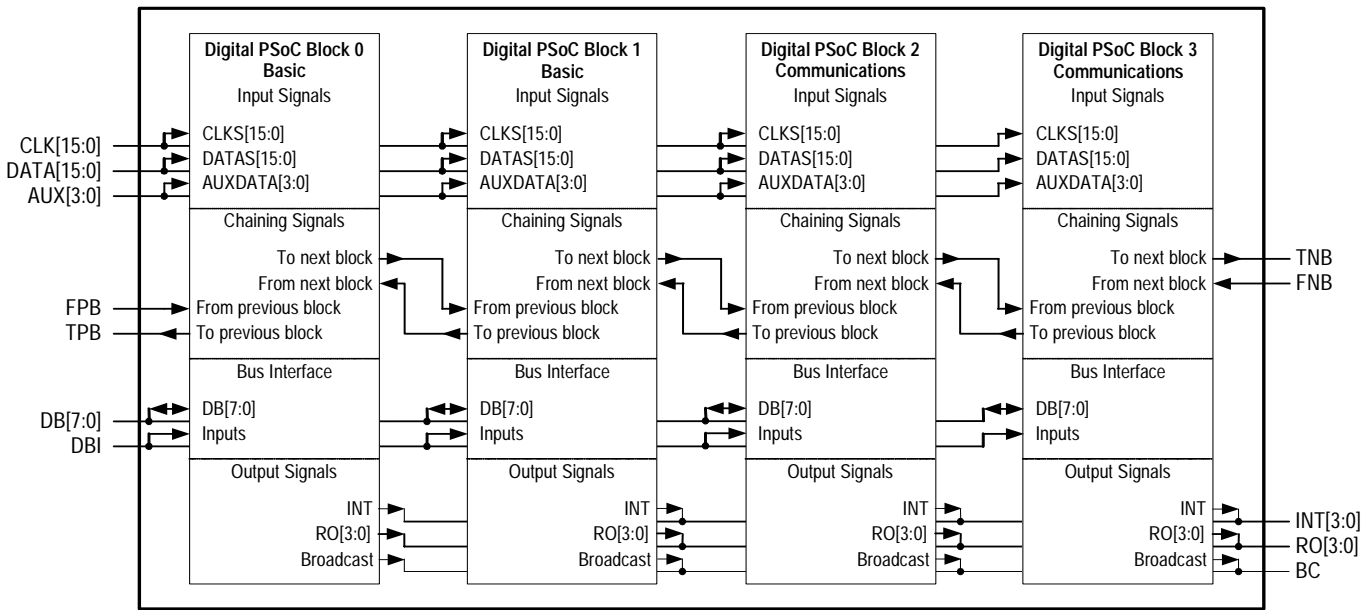
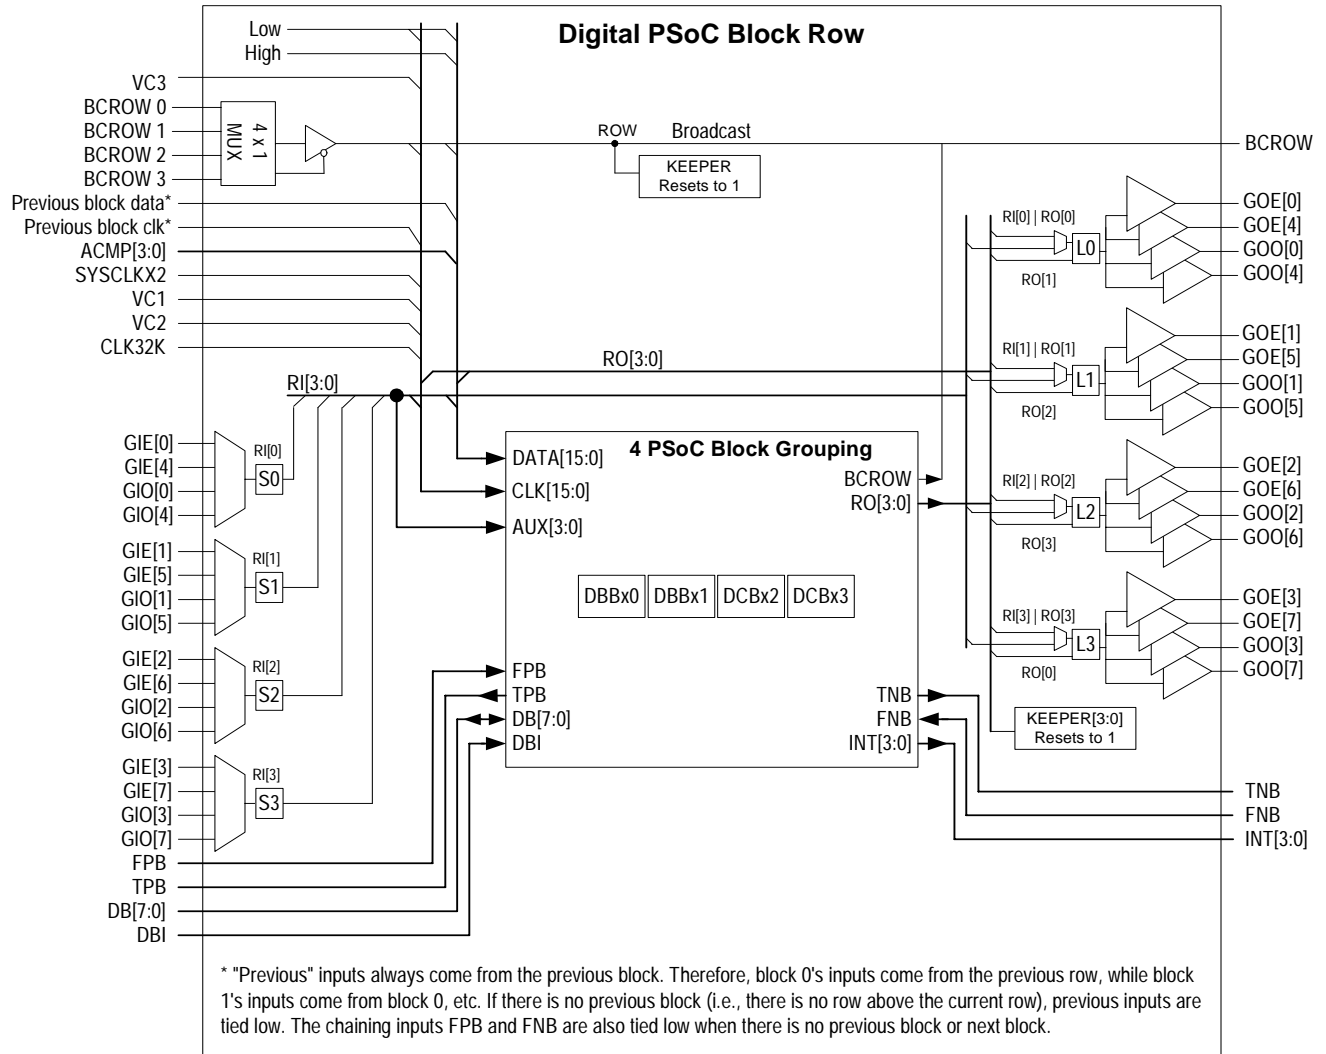

Figure 16-1. Detailed View of Four PSoC Block Groupings
Figure 16-2. Digital PSoC Block Row Structure
In Figure 16-1, within a Digital PSoC Block row, there are four digital PSoC Blocks. The first two blocks are of the type basic (DBB). The second two are of the type communication (DCB). This figure shows the connections between digital blocks within a row. Only the signals that pass through the bold line in Figure 16-1 are shown at the next level of hierarchy (Figure 16-2 on page 203).
In Figure 16-2, the detailed view of the four PSoC block grouping, as seen in Figure 16-1, has been replaced by the box in the center of the figure labeled “4 PSoC Block Group-
ing.” The rest of the configurable nature of the Row Inputs (RI), Row Outputs (RO), and Broadcast clock net (BC) is shown. The next level of hierarchy is shown in Figure 16-1.
The only configurable inputs to a Digital PSoC Block Row are the Global Input Even and Global Input Odd 8-bit busses. The only configurable outputs from the Digital PSoC Block Row are the Global Output Even and Global Output Odd 8-bit busses. Figure 16-2 on page 203 illustrates the relationships between global signals and row signals.
Notice on the left side of Figure 16-2 that global inputs (GIE[n] and GIO[n]) are inputs to 4-to-1 multiplexers. The output of these multiplexers are Row Inputs (RI[x]). Because there are four 4-to-1 multiplexers, each with a unique set of inputs, a row has access to every global input line in a PSoC device.
The outputs from a Digital PSoC Row are a bit more complicated than the inputs. Figure 16-2 on page 203 illustrates the output circuitry in a Digital PSoC Row. Notice in the figure a block labeled “Lx.” This block represents a 2-input lookup table (LUT). The LUT allows the user to specify any one of 16 logic functions that should be applied to the two inputs. The output of the logic function will determine the value that may be driven on to the Global Output Even and Global Output Odd busses. Table 16-5 lists the relationship between a lookup table's four configuration bits and the resulting logic function. Some users may find it easier to determine the proper configuration bits setting by remembering that the configuration's bits represent the output column of a two input logic truth table. Table 16-5 lists seven examples of the relationship between the LUT's output column for a truth table and the LUTx[3:0] configuration bits.